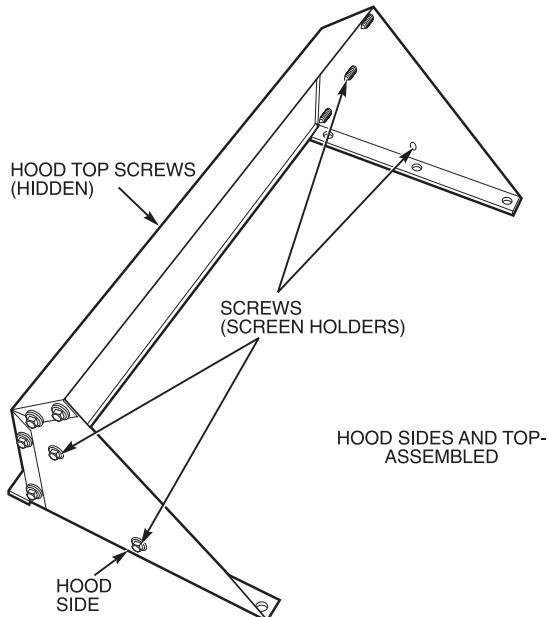
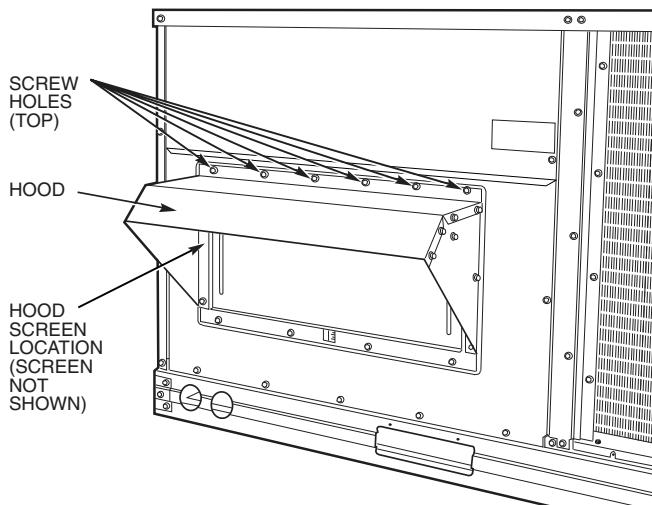

Fig. 14 — Outdoor-Air Hood Details
Fig. 15 — Optional Manual Outdoor-Air Damper with Hood Attached
5. Place hood on front of outdoor air opening panel. See Fig. 14 for hood details. Secure top of hood with the 6 screws removed in Step 3. See Fig. 15.
7. Align screw holes on hood with screw holes on side of manual outdoor-air damper. See Fig. 14 and 15. Secure hood with 8 screws from Step 6.
9. Remove and save screws currently on sides of hood. Insert screen. Secure screen to hood using the screws. See Fig. 15.